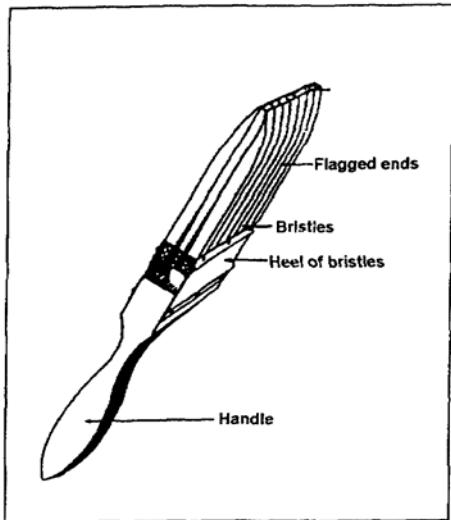
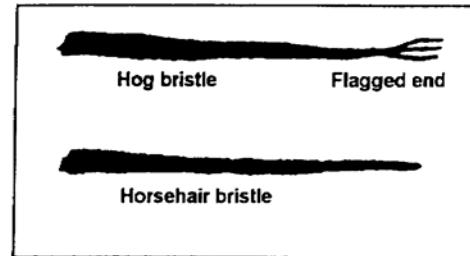

Figure 3-22. Principal paintbrush parts
Figure 3-23. Bristles
- a. Selection. Besides choosing good-quality paintbrushes, you should also select brushes that are the right size and shape for the job. For example, using a small paintbrush on large surfaces not only wastes energy but also prevents proper paint spreading. Applying paint to a smooth surface requires good-quality paintbrushes. They are well-bristled, and the bristles are springy. The bristles of good-quality paintbrushes are flagged at the ends to hold and help spread paint; whereas, poor-quality paintbrushes will neither hold paint well or spread it evenly. Figure 3-22 shows the principal paintbrush parts. Good-quality bristles are made from natural or synthetic bristles or a mixture of these materials (Figure 3-23).